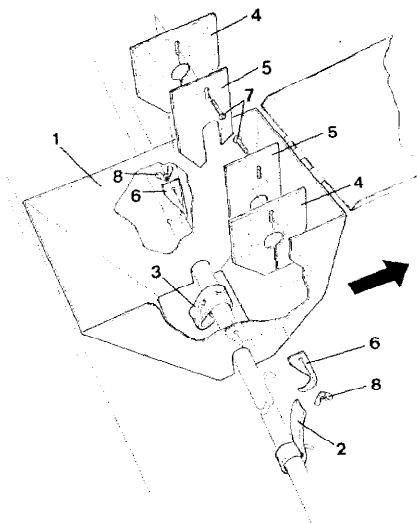

Fig.120
The hopper insert boxes (Fig. 120/1) are designed to save costly seed in those cases where a smaller seed rate should be brought out at larger row spacings. Hereby also the remaining amount of seed which is left over after sowing can be reduced to a minimum.
- When sowing badly flowing seed it is necessary before fitting the hopper insert boxes to fit an agitator rubber according to Fig. 120/2 or 240/3 so that also the last remainders of seed are sown out of the hopper insert boxes.
- Position the hopper insert boxes (Fig. 120/1) equally inside the seed box.
- Fix the rubber covering tongue (Fig. 120/4) to the cover plate (Fig. 120/5) within the fixing plate (Fig. 120/6) outside of the hopper insert boxes by flat head bolts M6 (Fig. 120/7) and wing nuts (Fig. 120/8). The fixing plate hooks with its pregnant hooks under the agitator shaft.